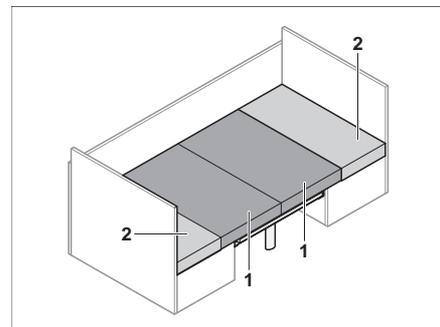

Fig. 70 After conversion
- Pull the seat cushions (Fig. 70,1) into the centre.
- Insert the back cushions (Fig. 70,2) between the seat cushions and the wall.